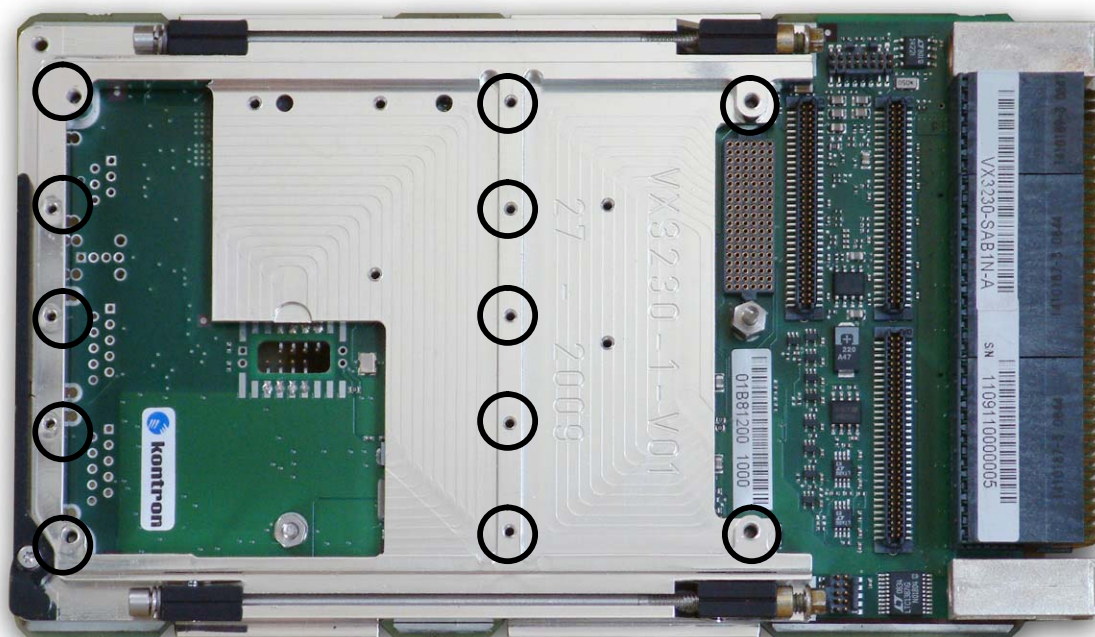

Figure 50: Standard Anchorage Points on VX3230-RC Board
3. Screw the XMC/PMC in place using mounting screws (5 at front of the board, 5 in the middle of the board and 2 at the rear of the board). Screws dimension: M2x6mm. Tighten with a torque of 0.383 Nm (0.233 lbf ft). Figure 50 shows the location of the standard anchorage points on an VX3230-RC board.